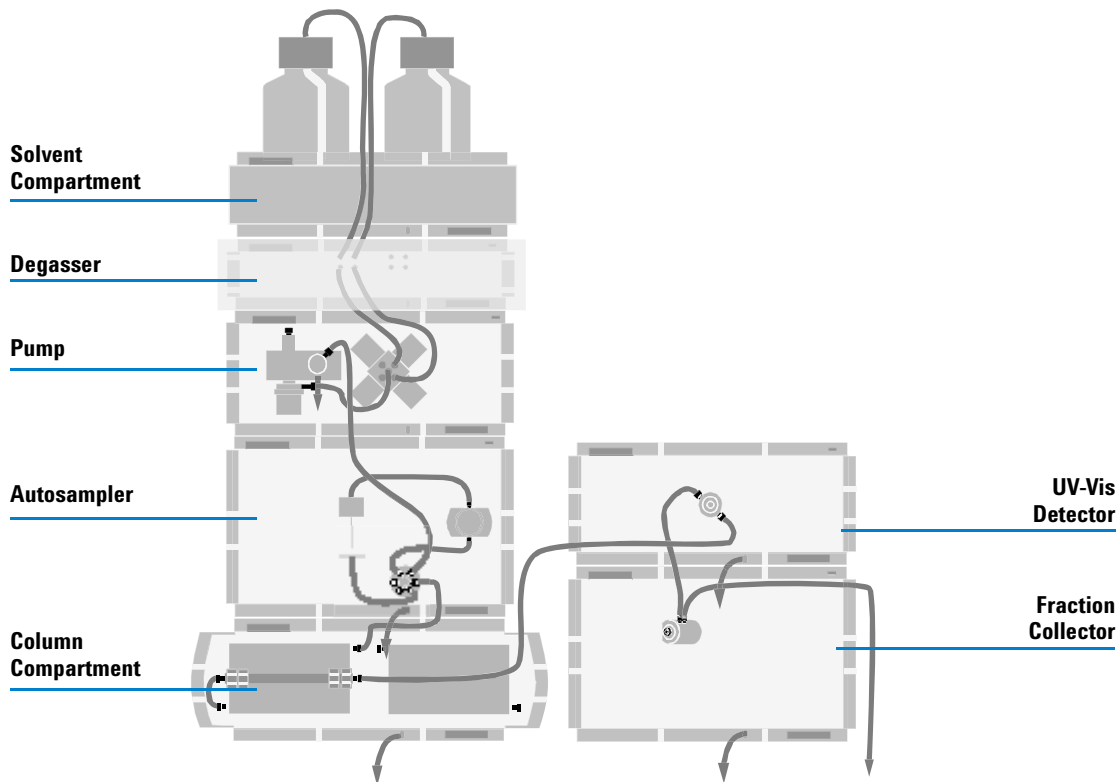
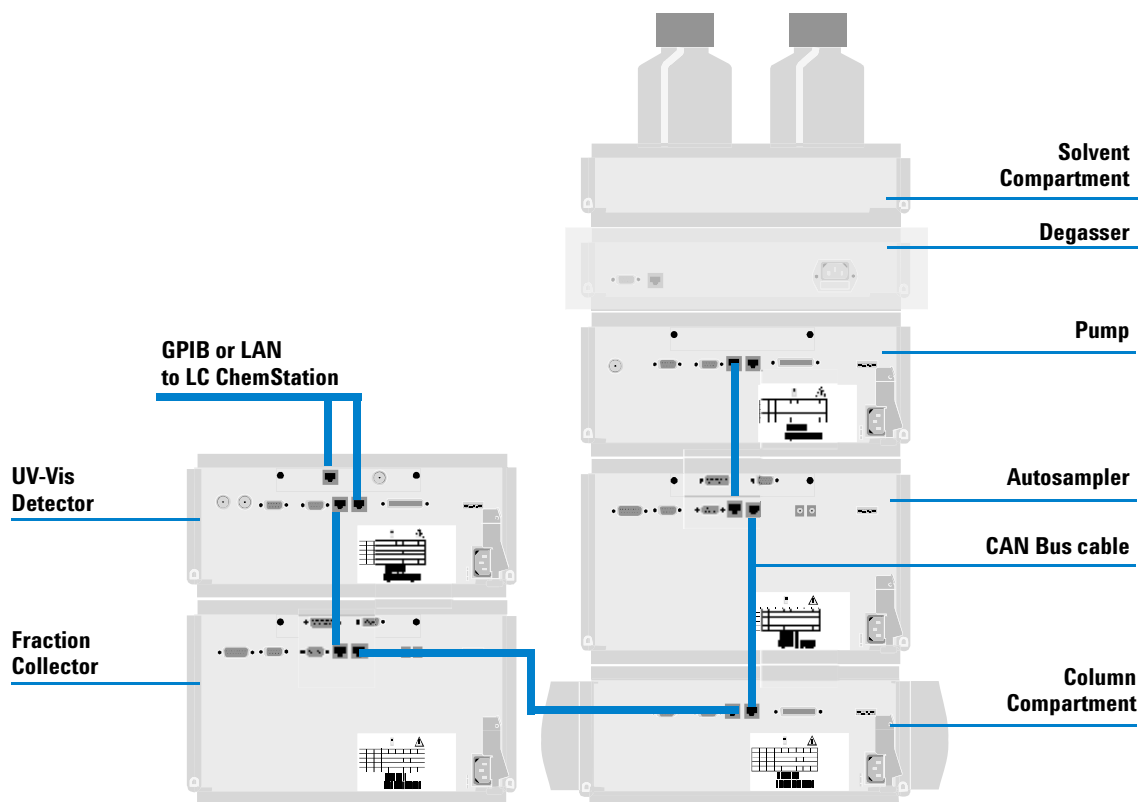

Figure 1 Recommended Stack Configuration - Analytical System (Front View)
Figure 2 Recommended Stack Configuration - Analytical System (Rear View)
- Figure 1 and Figure 2 on page 44 show the configuration recommended for the autosampler in an analytical scale system.